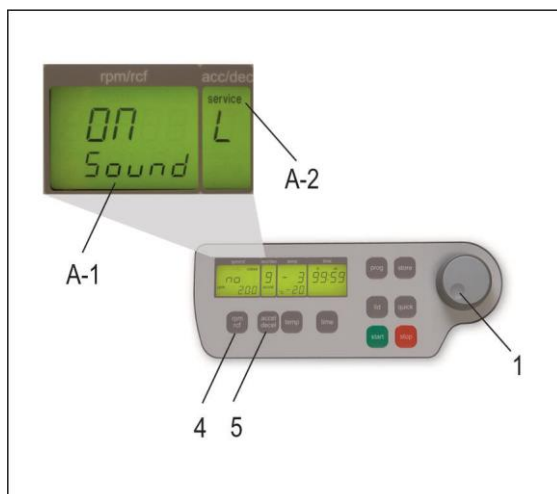

Figure 5
Proceed as illustrated, under point 1.8.1, to enter this program mode, press the key; "accel/decel" (5). In the display, "accel/decel" (A-2) flashes the word, "service". Select the letter, "L" with the adjustable knob (1). As a result, appearing in the display "rpm/rcf" (A-1), are the words, "On Sound". By pressing the key, "rpm/rcf" (4), the word "On" flashes, and the sound can be switched off with the adjustable knob (1), (see Figure 5).